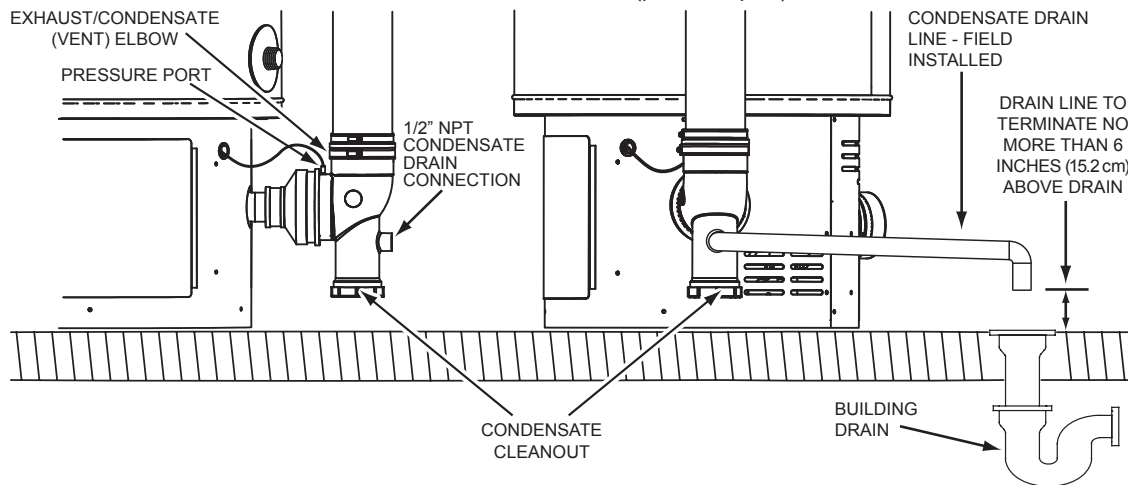

Figure 38. Condensate Drain Installation
2. Install a 1/2 inch PVC condensate drain line between condensate drain connection on the Exhaust/Condensate Elbow and a suitable building drain with a slight downward slope to drain. The exhaust elbow has a "built in" condensate trap. Do not install an additional trap in the condensate drain piping. See **Figure 38**.
3. Terminate the condensate drain piping with an elbow above the drain. Ensure that any discharge will exit the condensate drain line no more than 6 inches (15.2 cm) above a suitable building drain, or external to the building. See **Figure 38**.
4. Ensure the condensate drain line is not elevated above the condensate drain connection on the Exhaust/Condensate Elbow. See **Figure 38**.